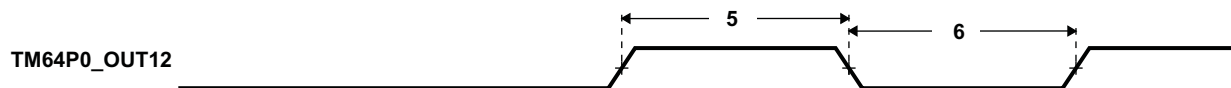

**Figure 6-72. Timer Timing**
**Table 6-108. Timing Requirements for Timer Input(1) (2) (see Figure 6-72)**